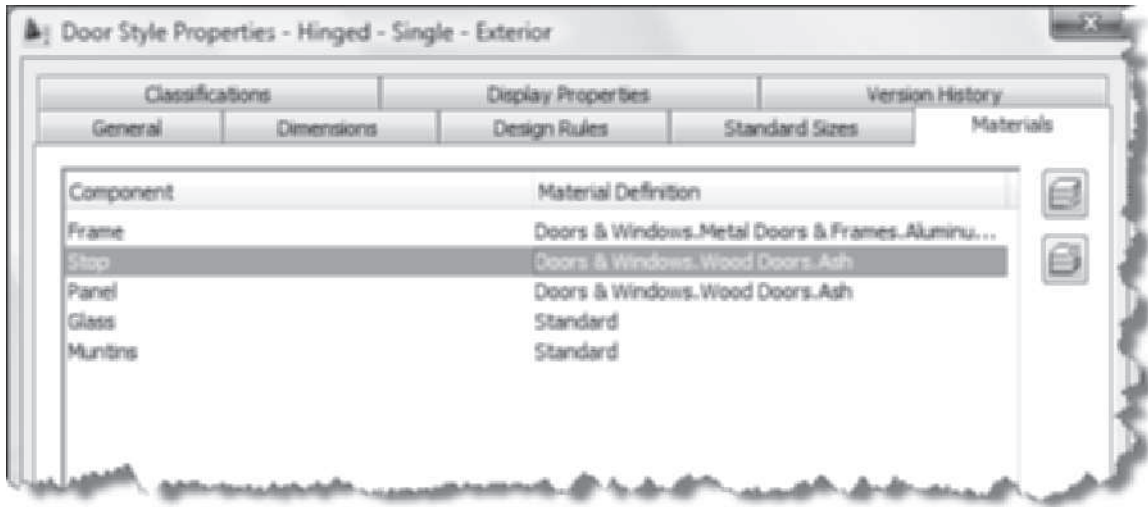

FIGURE 5.60 Materials tab of a door style
20. To edit the material of the Stop, click in the **Material Definition** column of the Stop, and select **Doors & Windows.Wood Doors.Ash** from the **Material Definition** list as shown in Figure 5.60. Click OK to dismiss the Door Style Properties dialog box.